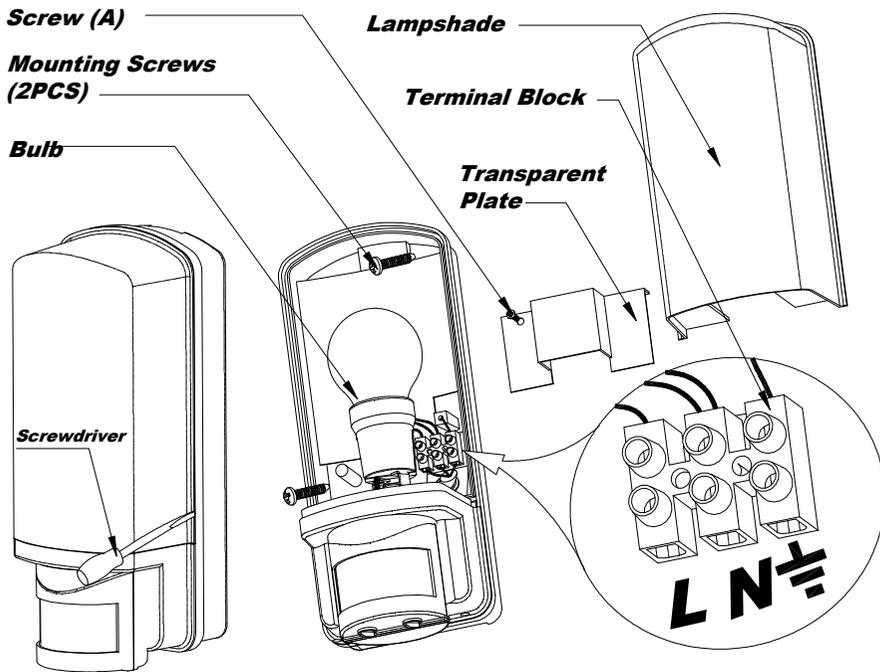

Fig. 2 Mounting and Wiring to Terminal
Installation the bulkhead light, please referring to the Fig.2
4. Unscrew the **Screw (A)** and remove the **Transparent Plate**.
6. Connecting the main power wires to the **Terminal Block** (see the relative symbols—Fig.2), the **Cable** must pass through the **Wiring Rubber Gasket**.